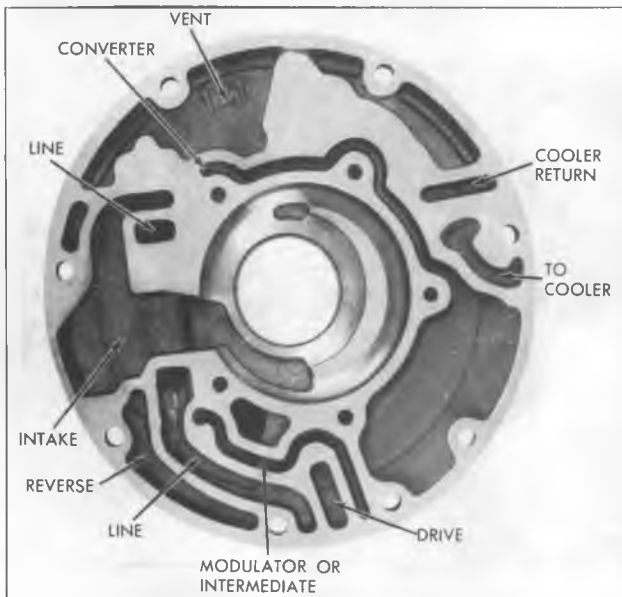

Figure 59—Identification of Oil Passages in Pump Body
4. Check oil passages (fig. 59).